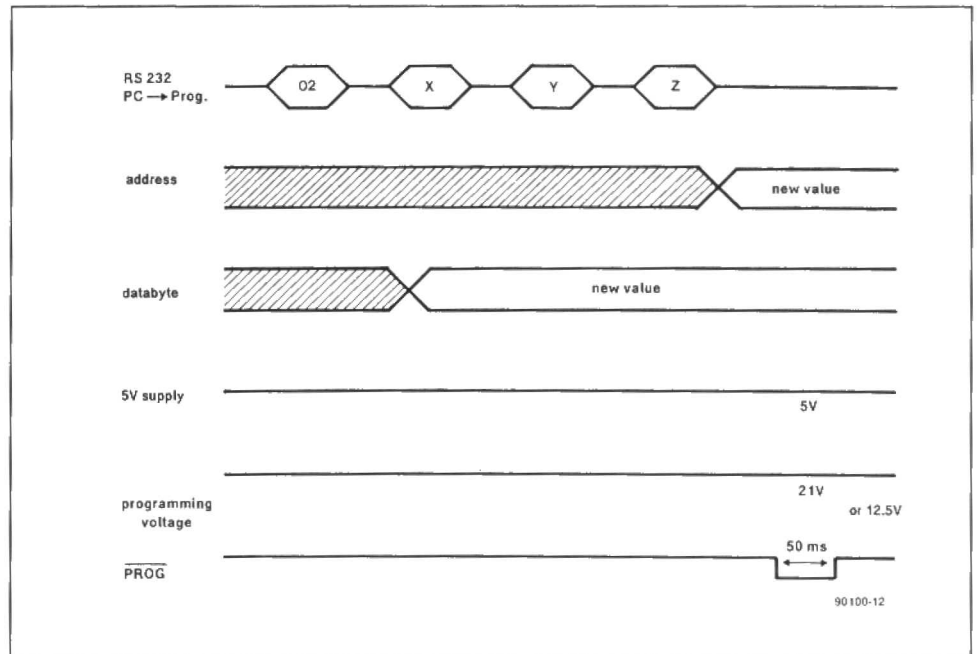

Fig. 1. Timing diagram for a programming operation.
- The timing of the data flow between the PC and the programmer is illustrated in the diagrams in Figs. 1 (program operation) and 2 (read operation).
the waveforms shown in Figs. 1 and 2. Measure direct at the relevant ZIF socket pins.